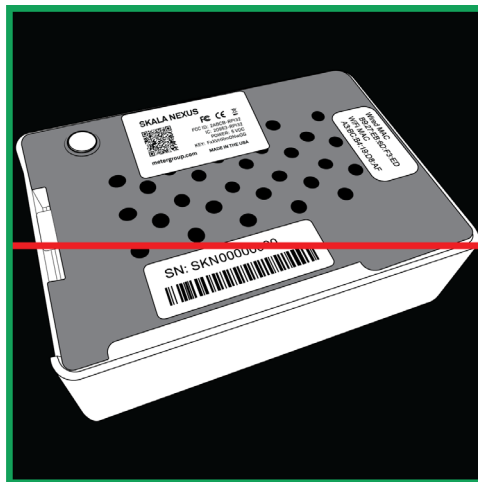

Figure 15 NEXUS in camera window
6. Place the QR code in front of the camera window and inside the green box (Figure 15).